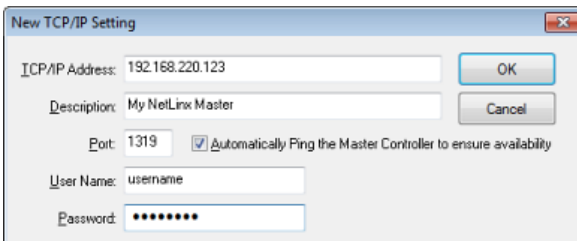

FIG. 21 NetLinX Studio - New TCP/IP Setting dialog
6. Click **New** to open the *New TCP/IP Setting* dialog, where you can enter both a previously obtained DHCP or Static IP Address and an associated *Description* for the connection into their respective fields. (FIG. 21):